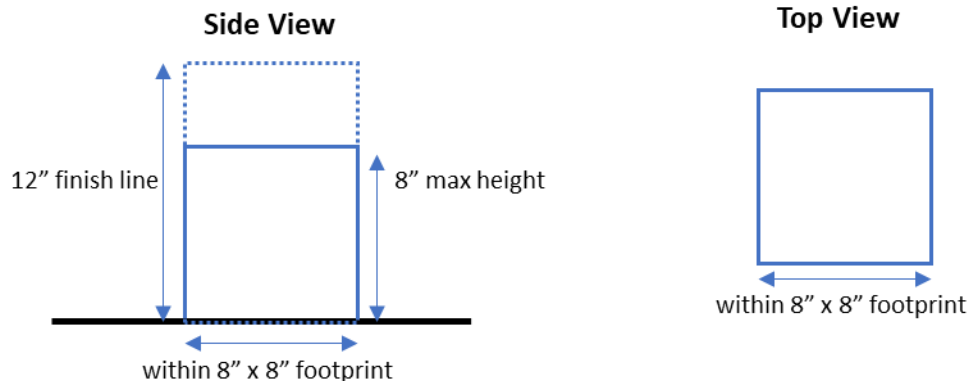

Figure 1 – Side and top view of lifting device envelope and finish line.
- The device and its load must fit within a footprint of 8” x 8” square (see Figure 1) for the entirety of the task and be self-standing.